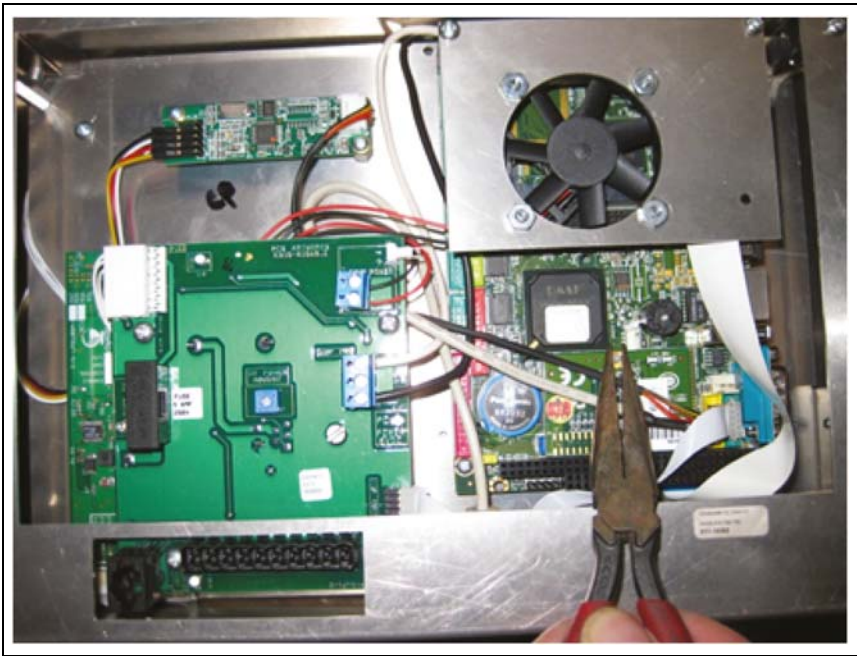

Figure 5 Hard Disk Removal (2nd generation shown.)
2. Use needle nose pliers to squeeze together the white nylon mounting post tabs to allow the board to be removed. (See Figure 5.)